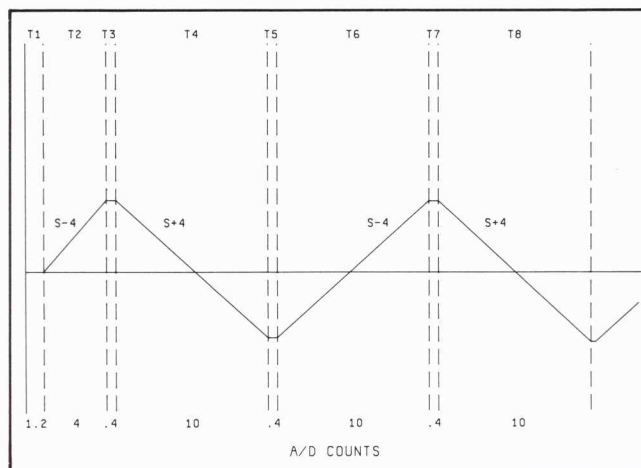

Figure 7-12. Runup Slopes For Zero Inputs (4½ Digit Mode)
k. Once the runup operation is completed, the inguard processor then determines the most significant digit of the reading. The counter in the inguard processor increments for each positive going slope and decrements for each negative going slope. The only exception is the first S-4 or S + 4 slope; it is ignored when doing the calculations. Using the information in the counter, the digits are developed. For other than a zero reading, the number of S + 4 slopes will always be different than the number of S-4 slopes. For a perfect zero reading, the number of S + 4 slopes will be the same as the number of S-4 slopes (with the first S-4 or S + 4 slope ignored). This is represented in Figure 7-12.